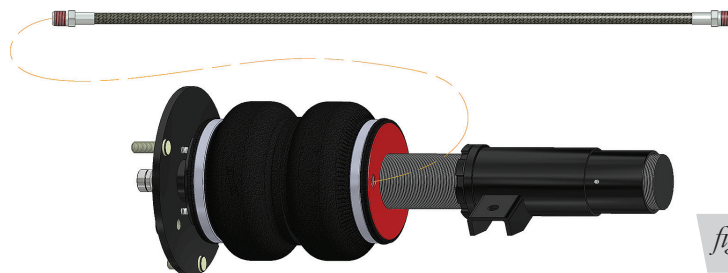

fig. D.17
1. Begin by installing the leader hose into the air spring. Apply thread sealant to the threads of the leader hose. Tighten the appropriate fitting to the air line (1 3/4 turns beyond hand-tight). Tighten the leader hose into the air spring 1 3/4 turns beyond hand-tight (Fig. D.17).